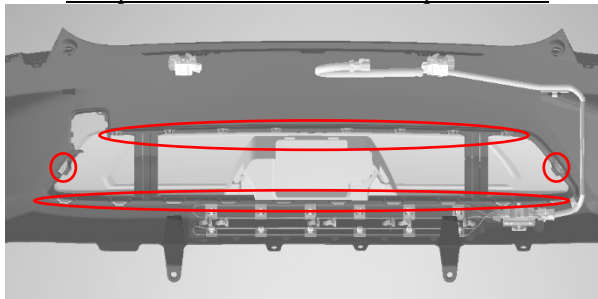

Fig. 9-1
- (a) Carefully detach the 18 snap fits and 2 Kanuki clips on the lower bumper fascia cover and remove the cover from the fascia. (Figs. 9-1 & 9-2). Discard the lower cover.